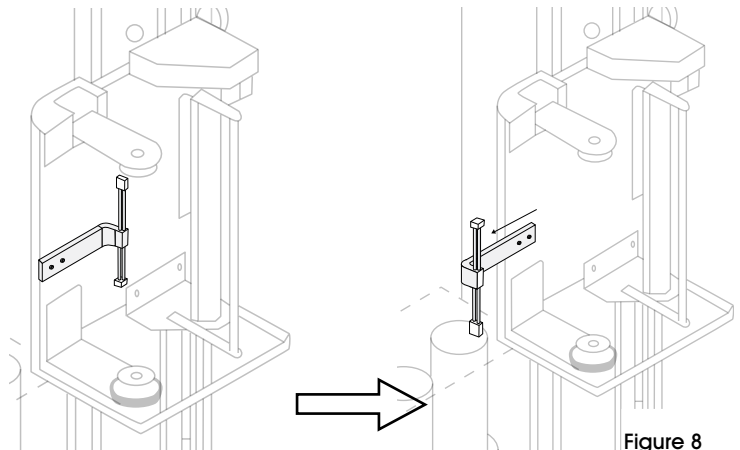

Figure 8
3. The next step is to remount the photo sensor from its protected shipping position. (See Figure 8)